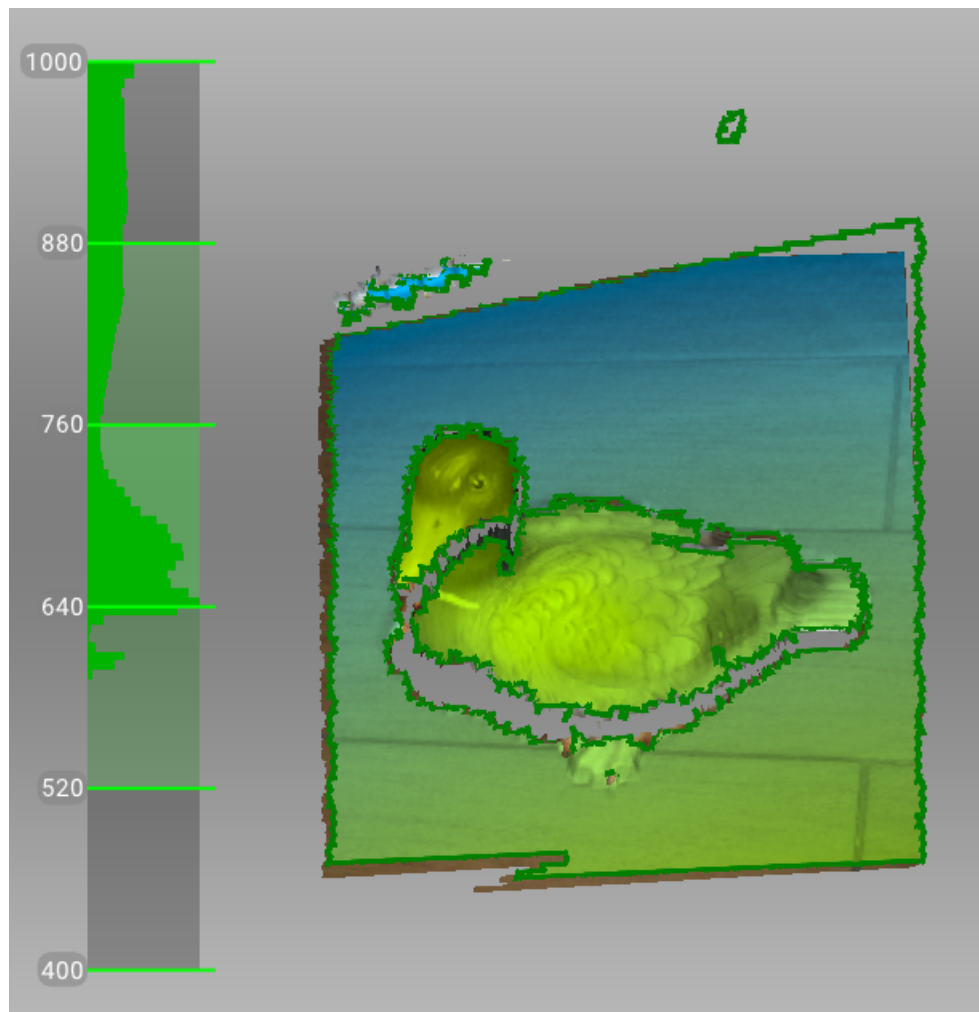

Figure 49: Distance meter and distance color showing surfaces that fall within the optimal range for Artec Eva.
- Try to position the scanner in the way the most surfaces in the field of view are colored in green which corresponds to the center of the range meter¹ (Figure 49)
¹ Technically, the center of the range meter is the center of the depth of view. The 3D scanner has near and far cutting planes (see Figure 22) that determine the optimum distance between the scanner and the target object. Artec Studio offers the *Range meter* feature so you can easily visualize the distance between the scanner and the object during the recording process. The *Range meter* comprises a set of semitransparent diagrams located on the left side of the *3D View* window (see Figure 49). Each histogram displays the distribution of captured surface points by distance from the scanner. The color corresponds to the set of surfaces from which it was obtained: by default, gray indicates registered key frames, dark green indicates the last successfully registered frame and red indicates a registration error.